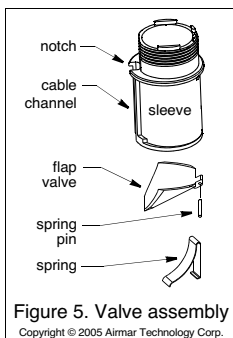

Figure 5. Valve assembly
Should the valve fail, it will need to be removed for servicing. Follow the steps below. If a new valve assembly is required and not immediately available, *the valve sleeve must be reinstalled in the multisensor housing for a watertight seal.* Remove the flap valve, spring pin, and spring from the sleeve (Figure 5). Then reinstall the sleeve in the housing.
4. Clean, repair, or replace the valve assembly so the flap valve moves freely and seats against the sleeve (Figure 5).
7. Remove the safety wire from the multisensor. With the combined valve assembly and paddlewheel insert ready in one hand, remove the blanking plug. Slide the assembly into the multisensor housing *with the arrow on the top pointing forward toward the bow.* Be sure the cable fits into the cable channel and the notch in the sleeve fits into the key in the housing (Figure 5). (A pushing twisting motion will locate the key.) Screw the CAP nut in place, being careful to avoid cross-threading. **Hand-tighten** only. Do not over tighten.